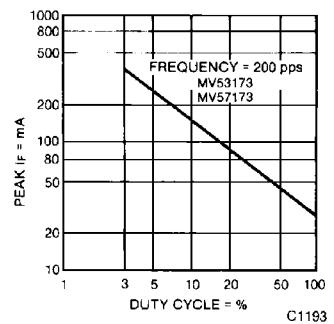

Fig. 3. Max Peak Current vs.
2. The curve in Figure 3 is normalized to the brightness at 25°C to indicate the relative efficiency over the operating temperature range.